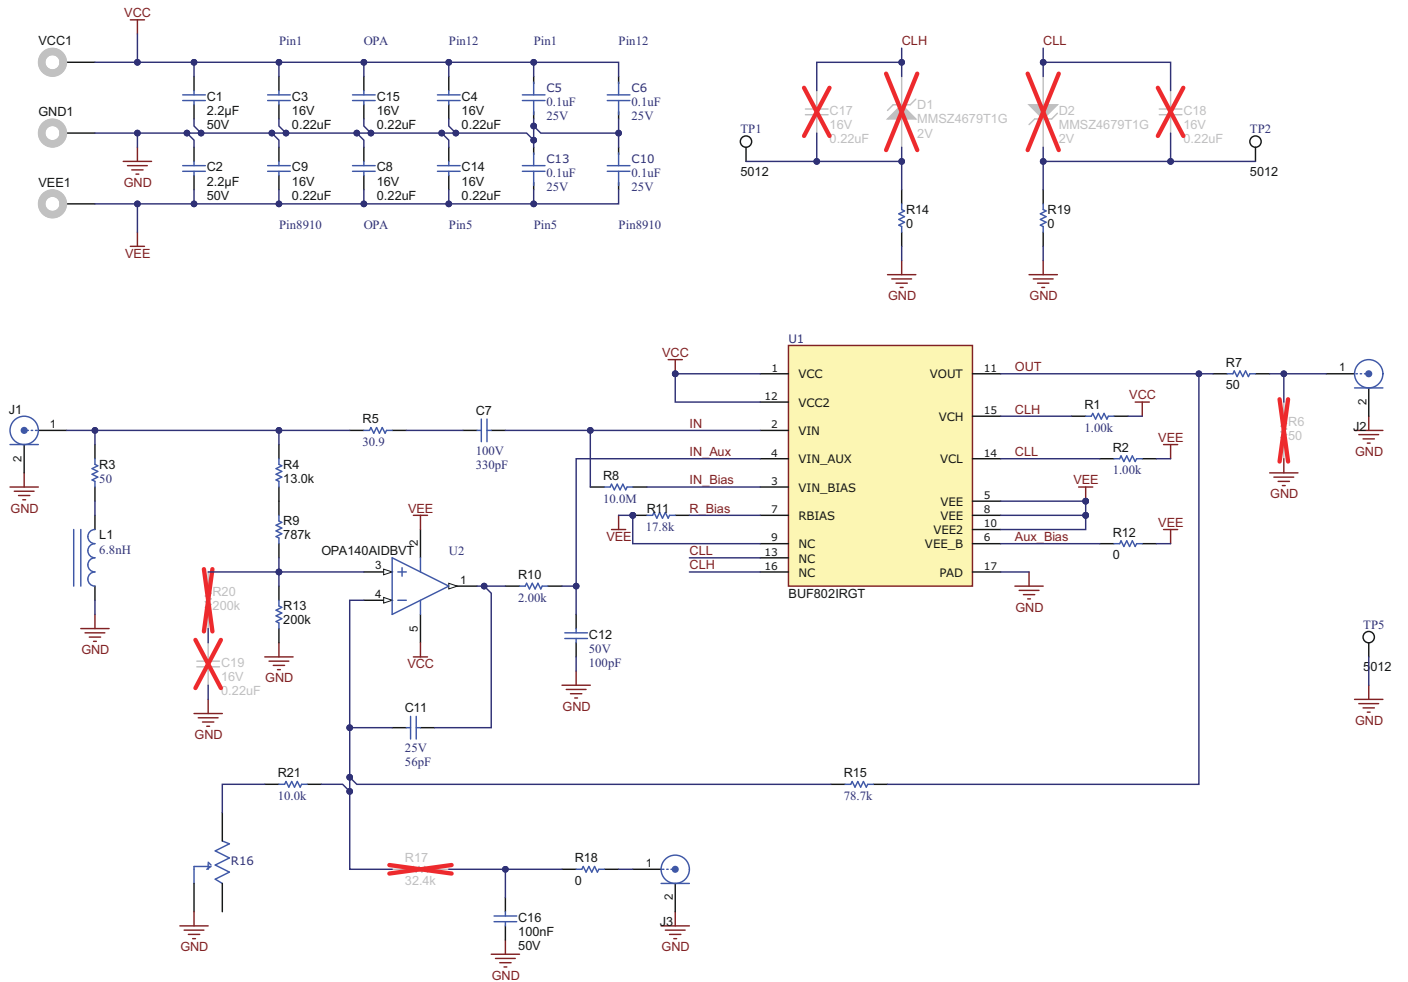

Figure 8-10. Layout Example: Schematic for Layout Reference
- **Peaking in the S21 transfer function:** keeping the trace length minimum is of prime importance to prevent peaking in the S21 transfer function of the BUF802. The trace inductance can form a resonant circuit with the input capacitance of the BUF802, causing peaking in the S21 response. Add a small resistor (R5 in Figure 8-10) in series with the dc blocking capacitor to dampen the LC resonance created by the trace inductance and the input capacitance of the BUF802. Choose series capacitors (C7 in Figure 8-10) with low equivalent series inductance (ESL) to minimize total inductance.
- **Power-supply bypass capacitors:** mount the power-supply bypass capacitors as close to the supply pins as possible and on the same side of the PCB as the BUF802. As shown in Figure 8-10, choose low-inductance LICC capacitors (C5, C6, C13, and C10) to minimize high-frequency impedance between the BUF802 and the bypass capacitors. Use multiple vias between the bypass capacitor and GND to reduce series inductance. As shown in Figure 8-10, also use multiple vias to GND on the 50- Ω input termination resistor (R3). Connect the bypass and termination vias to a solid GND plane.